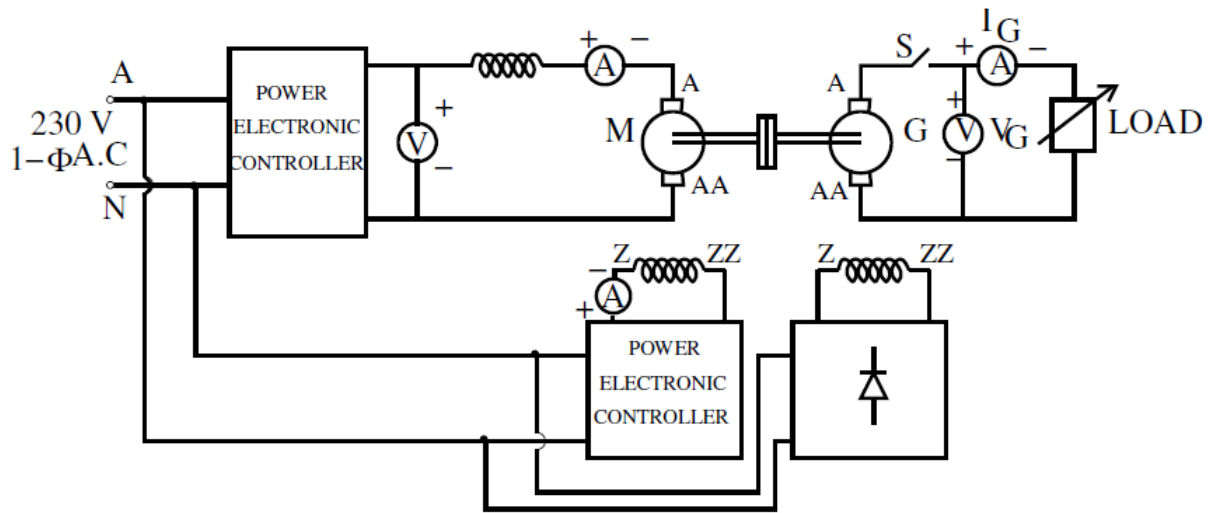

Figure 4: Circuit diagram
- Connect the circuit as shown in figure 4. In this experiment the motor is loaded by loading the generator. Put off all switches of the lamp load and open the main switch 'S' connected between the load and the armature of the DC generator. Also, **open switches S_1 , S_2 and S_3** . These are on machine stand.